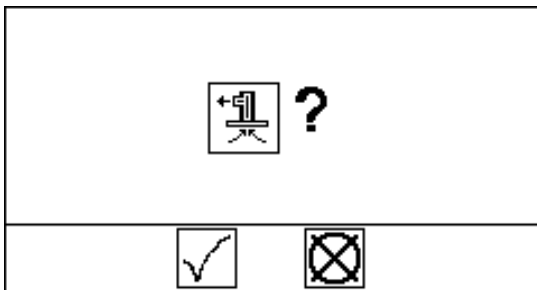

FIG. 12: Prime Confirmation
4. Press the Pump Prime key . The display prompts the operator to confirm. See FIG. 12. Select  to begin prime.